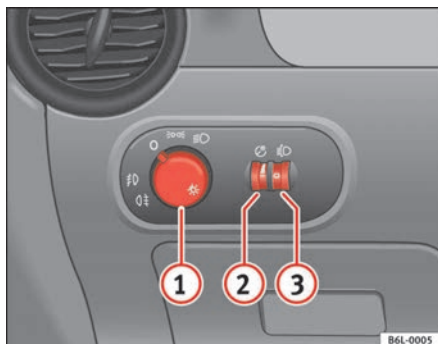

Fig. 57 Detailed view of dash panel lights, fog light and rear fog light control
- Turn the light switch \Rightarrow fig. 57 to position \Rightarrow .